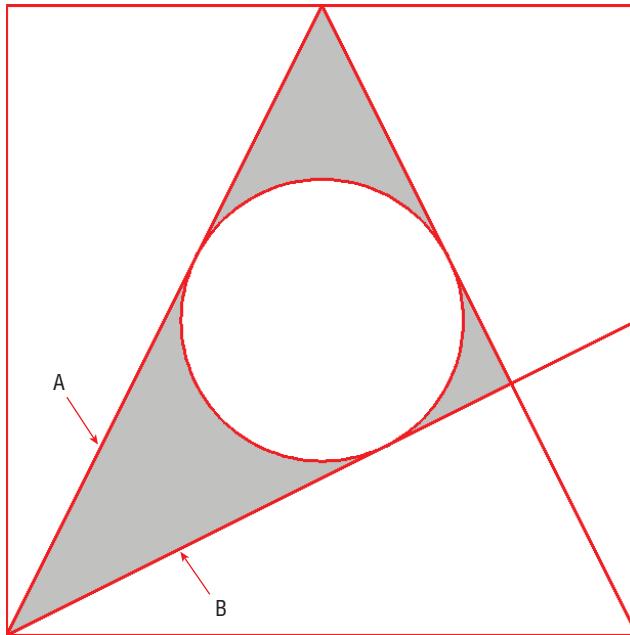

FIGURE 11.11 Measuring the angle between two lines
5. Type **A** (for Angle), and press Enter. Select lines A and B, as shown in Figure 11.11. The command prompt now gives the value: